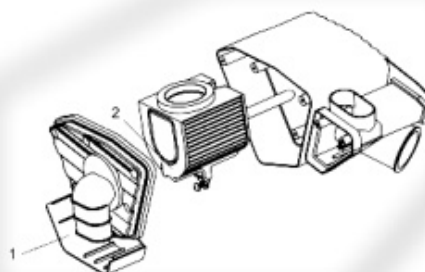

Figure 6
- b.Remove air cleaner element 2(See Fig.6)